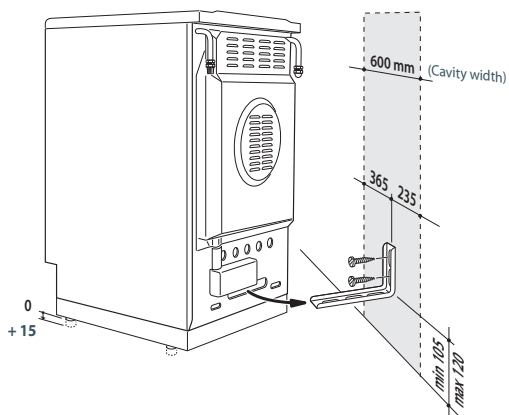

Fig. 5a Fitting the anti-tilt bracket
- 1 After you have located where the cooker is to be positioned, mark on the wall the place where the two screws of the anti-tilt bracket have to be fitted. Please follow the indications given in Fig.5a.
- 4 Move the cooker to the wall and adjust the height of the anti-tilt bracket so that it can engage in the slot on the cooker's back, as shown in Fig.5a.